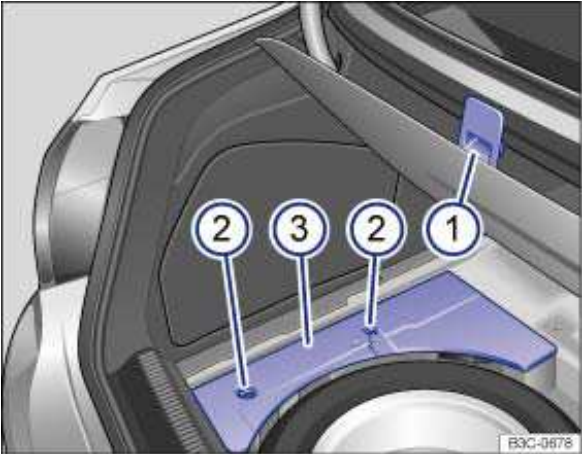

Fig. 169 In the luggage compartment underneath the floor panel 1: Spare tire and cover 3 for vehicle tool kit.
In a foam insert under the floor cover:	– Secure the floor cover on the top edge of the luggage compartment ⇒ fig. 169 (1). – Rotate the quick-release fasteners (2) 90° to remove the cover (3) of the vehicle tool kit.